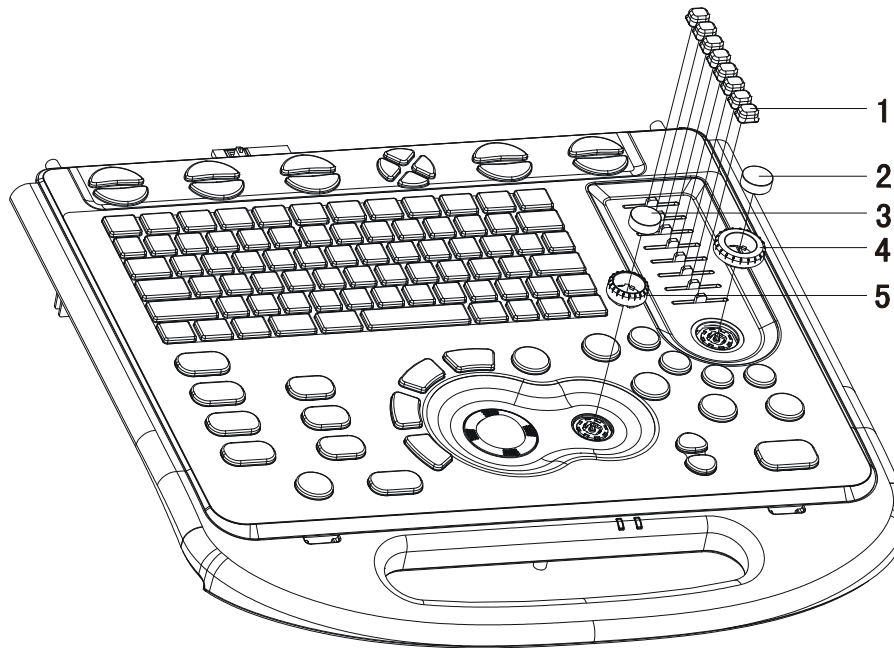

Figure 4-14 Removing TGC Sliders, Encoder Knobs and Buttons
- 1) As shown in Figure 4-14, remove TGC sliders, big encoder knob, small encoder knob, big encoder button, small encoder button. When removing the encoder knob, note that you shall pry it at one end of the knob.